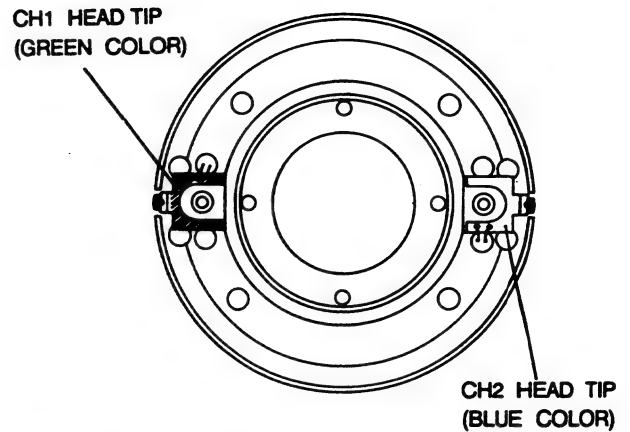

Fig. 26 Upper Cylinder Bottom View
1. Fix the slit part of upper cylinder PWB to CH1 head tip of PCB (green) on bottom side. (Fig. 26)